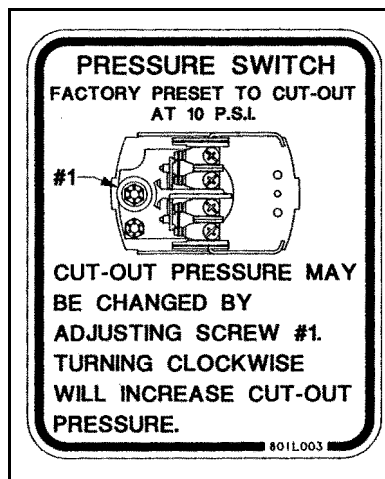

Figure 10A
Note: If the pressure limit is set below five (5) p.s.i., the switch may not reset and allow the air transfer to run. (See Figure 10A).